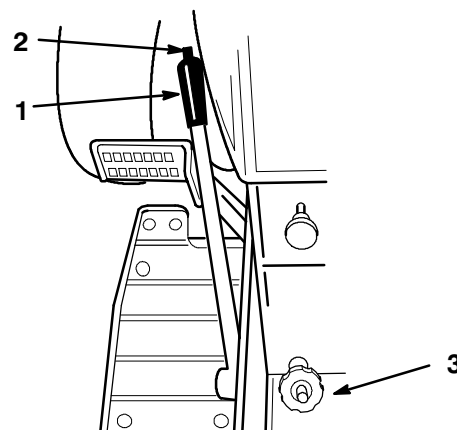

Figure 13
The attachment lift lever (Fig. 13) is used to raise and lower various attachments.
The Dial-A-Height control (Fig. 13) is used to limit the downward travel of attachments other than mowers. For example, use the Dial-a-Height to hold the blade or snowthrower above a gravel drive to prevent picking up stones or hold the tiller at a selected depth. For mowing, turn the Dial-a-Height fully counterclockwise until the knob contacts the plastic thread cap, so the mower can move through its full range of travel. Use the mower's height control to set cutting height. To use the Dial-a-height:
- Raise the attachment lift lever: Refer to Raising Attachments. In the raised position the Dial-A-Height knob (Fig. 13) can be rotated to change the stop location. Turn right to raise and left to lower the height of the attachment.